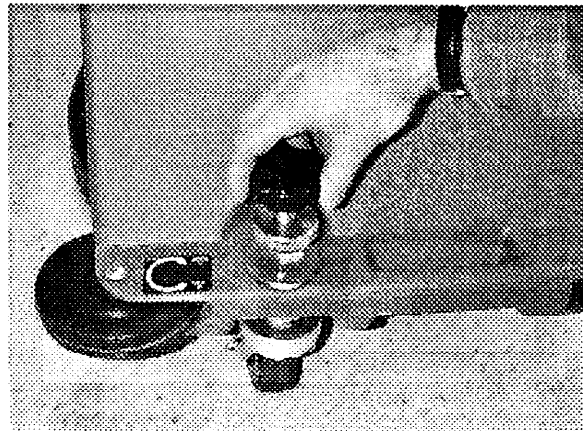

Fig. 5.
2. Adjust pad to correct pad pressure: With pad installed and caster wheel swung towards pad driver, rotate pad pressure adjustment knob clockwise until pad is not touching floor, (check by manually spinning pad; it should turn freely). (Fig. 5)